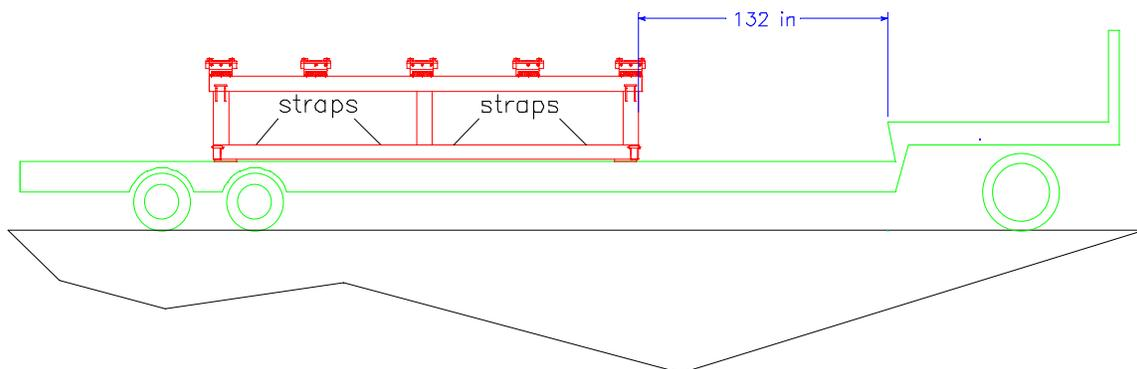

Figure 1. Position of red base frame air-ride trailer.
- Load red base frame onto air-ride trailer centered transversely per Figure 1